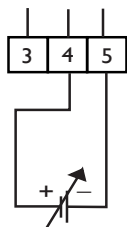

Fig. 2c
- 1) Control by integrated analog input, terminals 4 and 5 to be used (see fig. 2c).